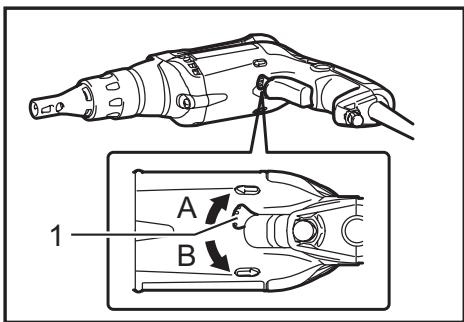

Fig.7
► Fig.7: 1. Reversing switch lever